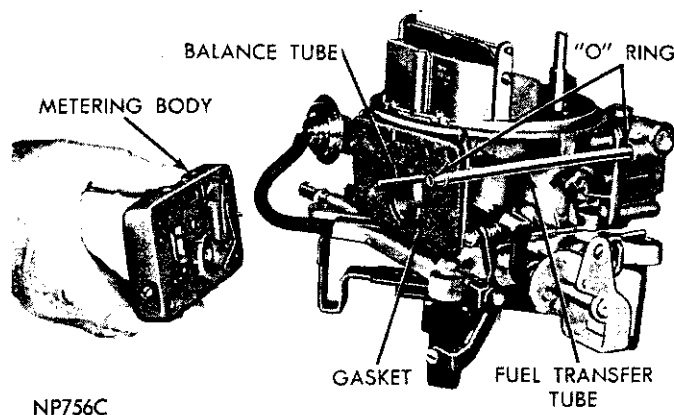
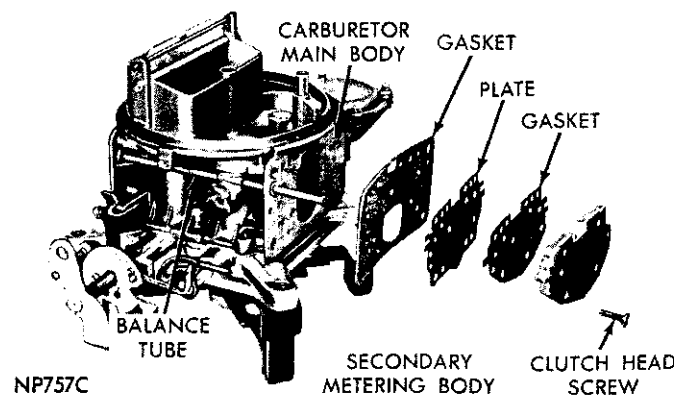

Fig. 3—Removing or Installing Primary Metering Body and Plate
Fig. 4—Secondary Metering Body, Plate and Gaskets
(3) Remove primary metering body by sliding straight off balance tube (Fig. 3). Remove plate to body gasket.
(4) Remove accelerating pump operating lever "E" clip and slide lever assembly off stub shaft. Remove adjusting nut, spring and screw.
(5) Remove fuel transfer tube and "O" rings (Fig. 3).
(6) Remove secondary fuel bowl assembly.
(7) Using a clutch head screwdriver (Tool CL-13) remove clutch head screws, carefully work secondary metering body, plate and gaskets off balance tube (Fig. 4).
(8) Remove balance tube, washers and "O" rings by sliding out of main body (either end).
(9) Disconnect choke diaphragm hose from throttle body fitting, then remove diaphragm assembly, at the same time disengaging link from fast idle cam lever.
(10) Remove "E" clip that retains fast idle cam lever and cam. Slide lever and cam off stub shaft, and at the same time, disengage choke rod from cam